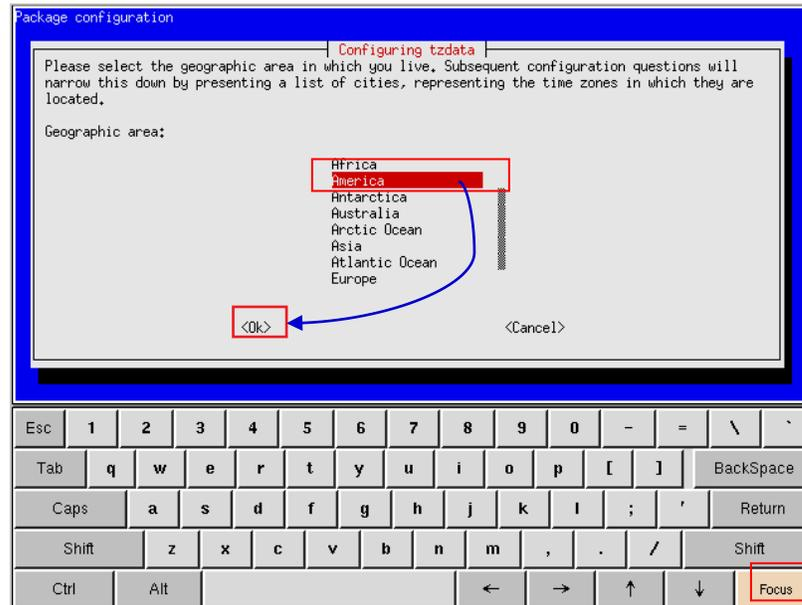

Figure 30 Time Zone – configure geographic area.
4. Click **[Diagnostics/Maintenance]** → **[Configure Time Zone]** to access the Time zone Selection Page. A new window will appear as seen in Figure 30.